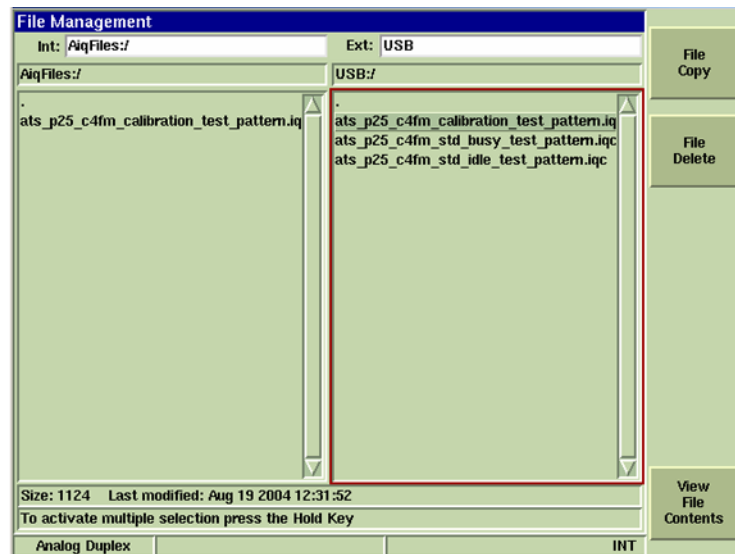

Fig. 3-32 File Management Tile - Copy Complete
9. Imported file(s) now appears in data field (refer to Fig. 3-32).
7. Select file to be copied from Test Set to USB device and press the [\[File Copy\] Soft Key](#). File appears under the USB:/ Directory when copy is complete (refer to Fig. 3-32).